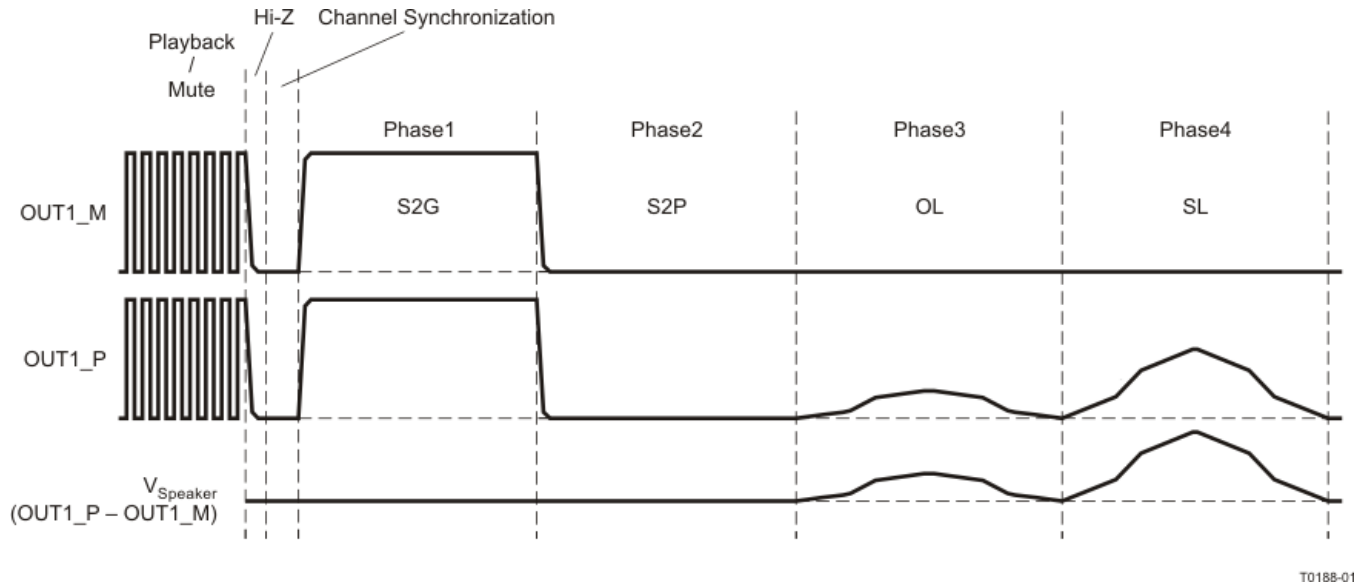
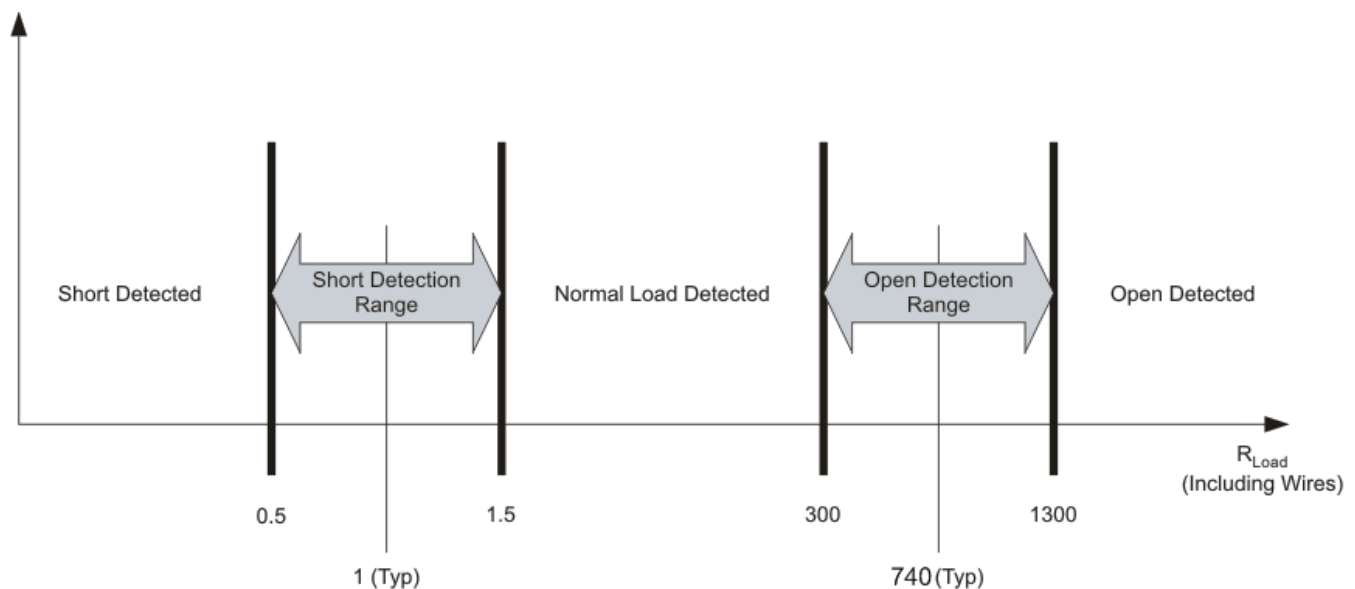

Figure 11. Load Diagnostics Sequence of Events
Figure 12. Open- and Shorted-Load Detection
1. **Output Short and Open Diagnostics** — The device contains circuitry designed to detect shorts and open conditions on the outputs. Invocation of the load diagnostic function can only occur when the output is in the Hi-Z mode. There are four phases of test during load diagnostics and two levels of test. In the full level, all channels must be in the Hi-Z state. Testing covers all four phases on each channel, all four channels at the same time. When fewer than four channels are in Hi-Z, the reduced level of test is the only available option. In the reduced level, the only tests available are short to PVDD and short to GND. Load diagnostics can occur at power up before moving the amplifier out of Hi-Z mode. If the amplifier is already in play mode, it must *Mute* and then *Hi-Z* before performing the load diagnostic. By performing the mute function, the normal pop- and click-free transitions occur before the diagnostics begin. Performance of the diagnostics is as shown in Figure 11. Figure 12 shows the impedance ranges for the open-load and shorted-load diagnostics. Reading the results of the diagnostics is from the diagnostic register via I²C for each channel. With the